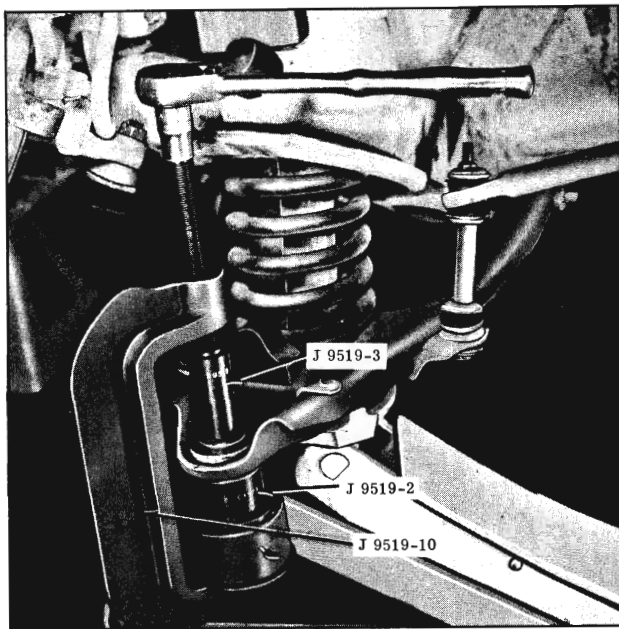

Fig. 5-111 Removing Ball Joint
7. Install tools as shown in Fig. 5-111 and press out ball joint.